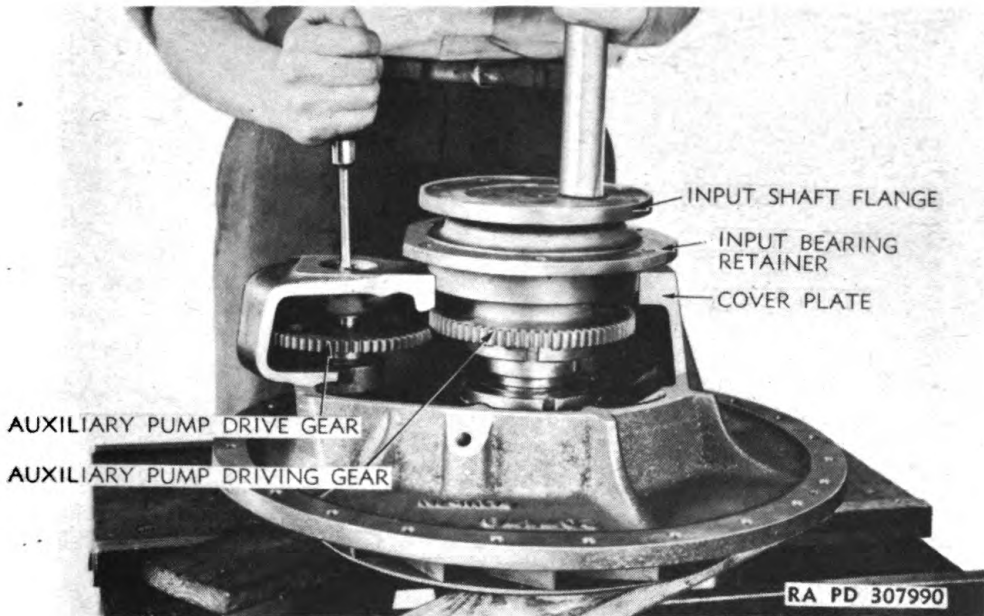

Figure 182 — Installing Input Shaft Assembly in Cover Plate
e. Install Input Shaft Assembly in Cover Plate. Slip input shaft sealing ring gasket onto input shaft and against shoulder of shaft. Cement flat gasket to machined face of input bearing retainer and lower input shaft assembly into impeller hub as shown in figure 182. Rotate auxiliary pump drive shaft with a screwdriver so gears will mesh. Tap on flange of input shaft until bearing retainer seats against cover plate. Attach retainer to cover plate with six cap screws with lock washers.